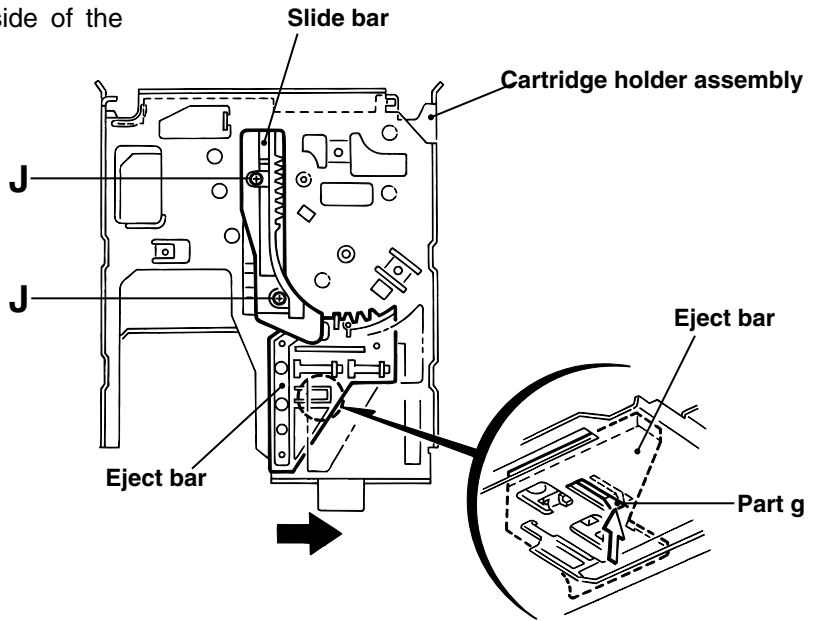

Fig.14
(See Fig.14 and 15)
2. Move the eject bar outward until it stops as shown in **Fig.14**. Push the convex part **g** on the bottom of the body and remove the eject bar from the chassis.